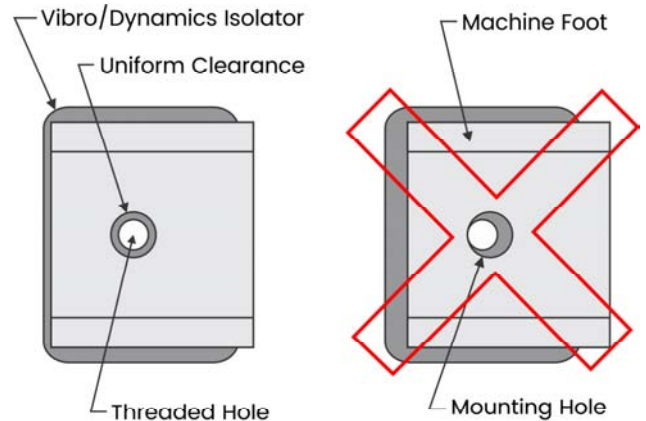

FIGURE 1
2. Position each isolator under the machine foot so there is uniform clearance between the threaded hole in the isolator and the inside surface of the mounting hole (see Figure 1). Any contact between the leveling screw and the inside surface of the mounting hole as it is turned into the isolator housing can cause the leveling screw to jam.